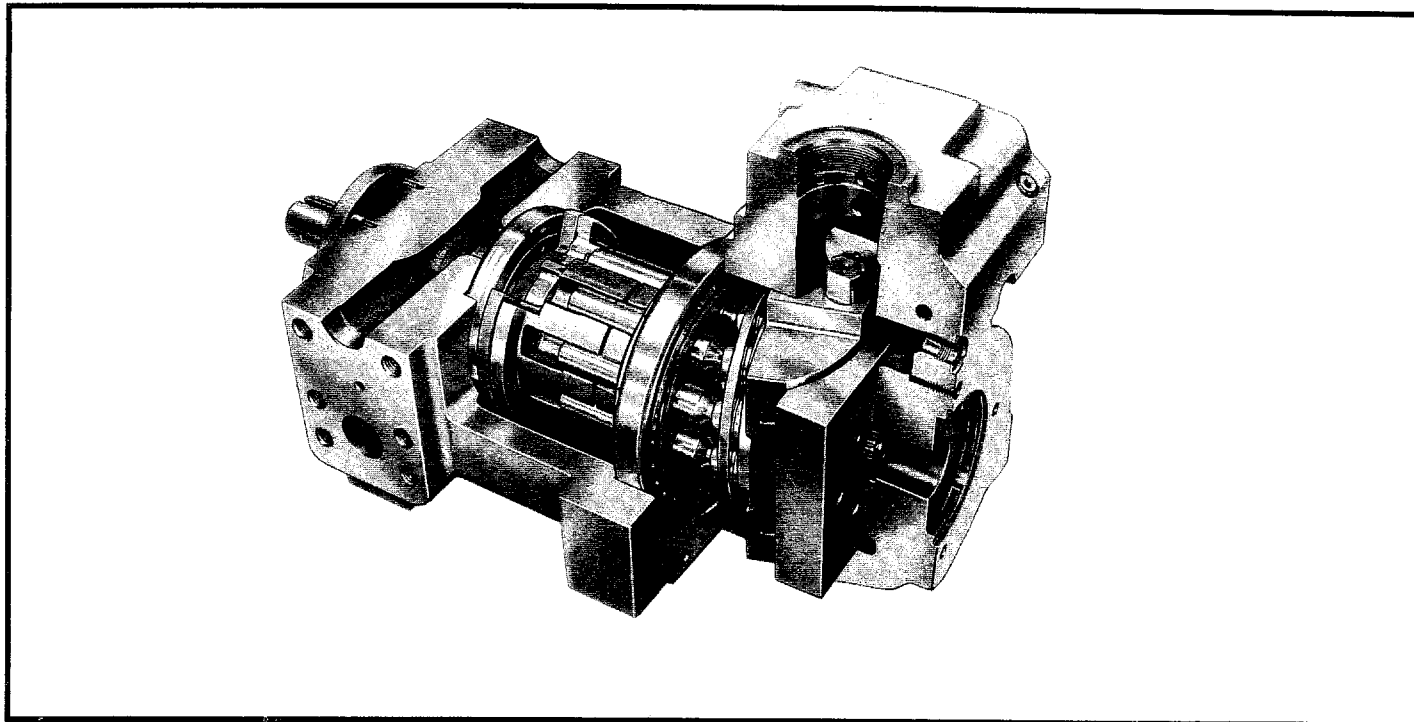

Figure 2. Cutaway of typical "PVL" Pump (55204-R).
See Figures 2 and 8. A driveshaft (48) runs through the centerline of the pump front and rear housings (14 & 51) with one half of the floating cylinder (34) splined to it. A cylinder bearing (35) supports the cylinder and driveshaft inboard end and a front shaft bearing (50) supports the outboard end. The port plate assembly (41) has two crescent shaped ports. One crescent connects the pumping piston assemblies (32), during the upper half revolution and the other crescent port connects the piston assemblies, during the lower half revolution. Pumping pistons in the cylinder are held against the cradle (18) by harness-plate (31). The semi-cylindrical shaped cradle limits the piston stroke and swivels in arc shaped cradle bearings (28). The cradle is swiveled by control pistons, which are operated by the control and opposing operator assemblies (covered in referenced material). See Figure 3, a stroke indicator assembly (1) rides on a ramp in the opposing operator control piston giving a visual indication of cradle position.